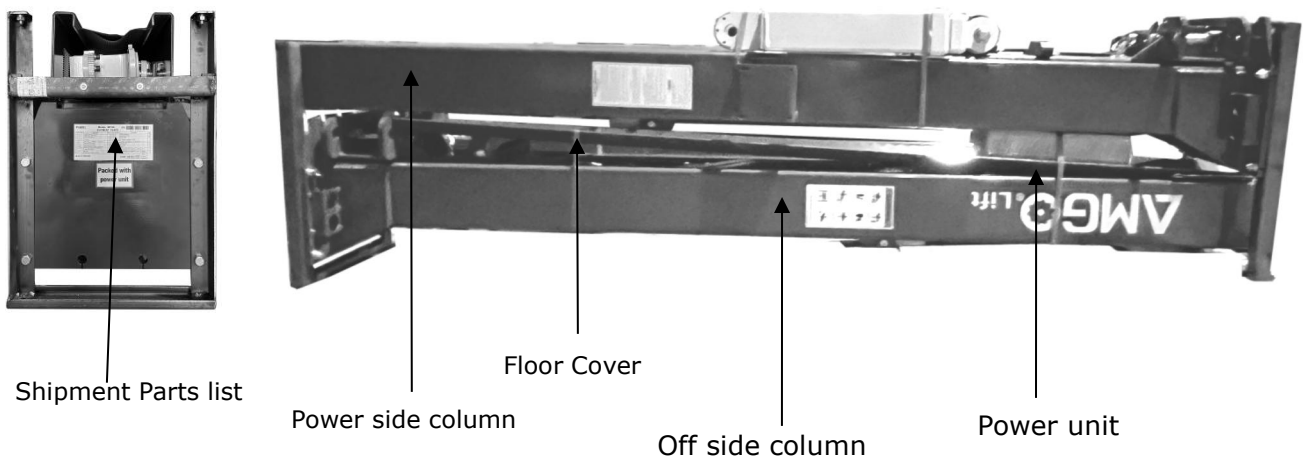

Fig. 10
2. Move the lift aside with a fork lift or hoist, and open the outer packing carefully , take off the parts from upper and inside the column, take out the parts box, check the parts according to the shipment parts list (See Fig. 10).